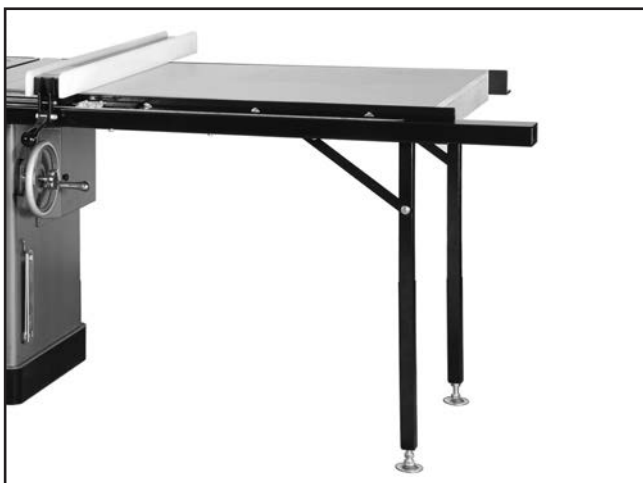

Figure 30. Extension table installed.
7. Adjust extension table so it is flat (both flush and parallel) with main table. Loosen mounting bolts and adjust feet up/down as needed. **Figure 30** shows extension table installed.